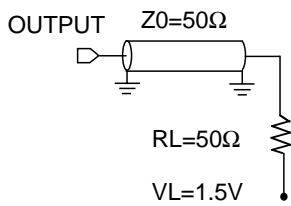
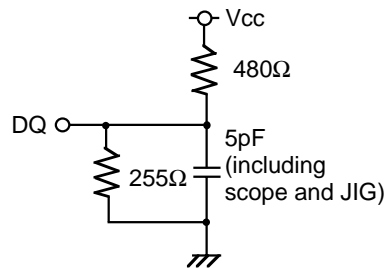

Fig.1 Output load
Fig.2 Output load for ten, tdis
Output loads ..... Fig1, Fig2
5. Transition is measured  $\pm 500$ mv from steady state voltage with specified loading in Figure 2.